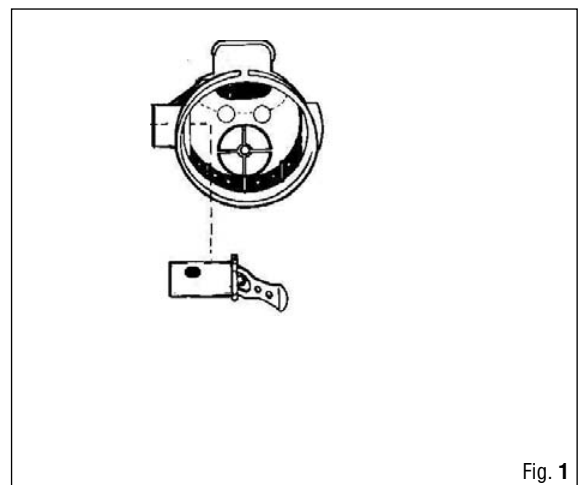

Fig. 1
5. Read the value of the first stage adjustment on the pressure gauge, and proceed as follows (Fig. 1):
- a. If the first stage pressure is greater than the required value (see table), use the wrench (B-13) to slowly back off the adjusting nut (16) until the required value is obtained.
16. Remove the diaphragm retaining ring (32), the diaphragm (78), and the spacer ring (36) from the 2nd stage case (90).
17. Unscrew the case plug (64) using a 6-mm hex wrench (B-8).
18. Remove the O-ring (72) from the case plug.
19. Pressing gently, push the adjuster connector (87) inward and remove the O-ring (83) from its seat in the 2nd stage case (32).
20. Gently press the demand lever connector assembly into the case (Fig. 1).
21. Remove the O-Ring (83) from its seat in the second stage case (32).